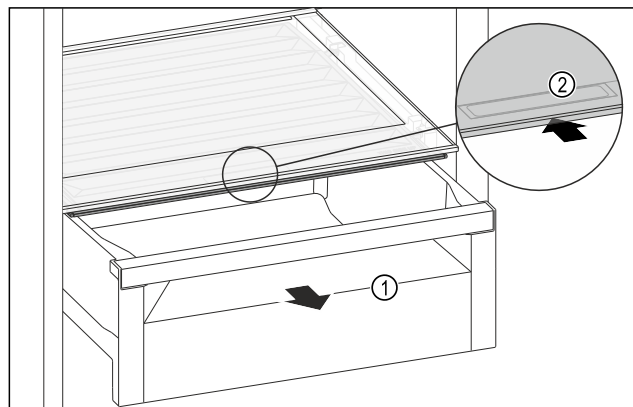

Fig. 105
- Pull out the drawer Fig. 105 (1).
- Grasp the recessed grip Fig. 105 (2) on the compartment lid and push the compartment lid backwards at the same time.